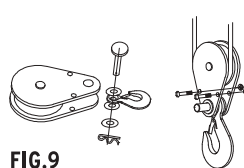
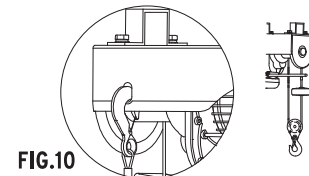

FIG.9
FIG.10
- 6.1 To use the electric hoist with the pulley, you must remove the screws to set in the cable (figure 9). Then, set the cable hook in the anchoring slot in the electric hoist support (figure 10).